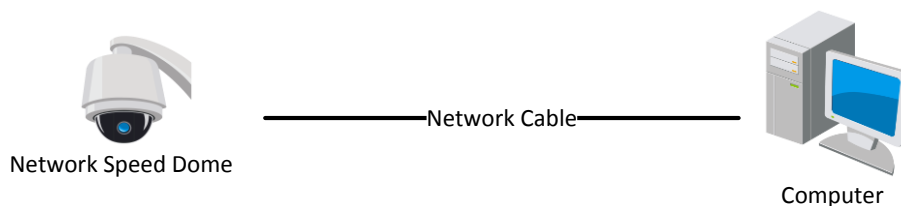

Figure 2-1 Connecting Directly
- To test the network camera, you can directly connect the network camera to the computer with a network cable as shown in Figure 2-1.